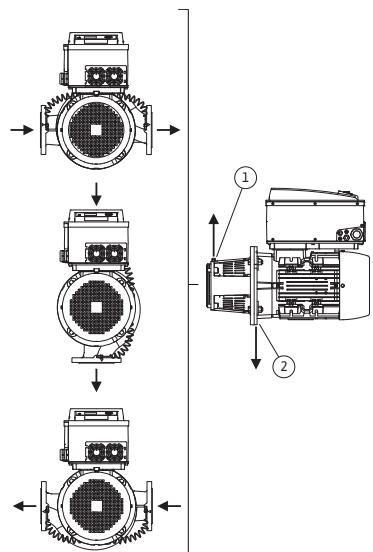
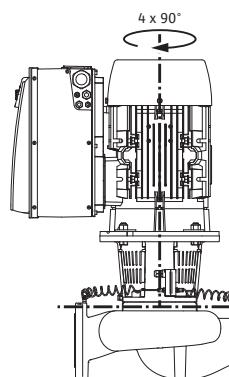

Fig. 18: Permitted installation positions with horizontal motor shaft
Fig. 19: Permitted installation positions with vertical motor shaft
The permitted installation positions with horizontal motor shaft and electronic module facing up (0°) are shown in Fig. 18. The permissible installation positions with electronic module mounted on the side ($+/-90^\circ$) are not shown. Any installation position is allowed except for “electronic module facing down” (-180°). The venting of the pump is only ensured when the air vent valve is pointing upwards (Fig. 18, Item 1). Only in this position (0°) can condensate be directed away via existing drilled holes, pump lantern and motor (Fig. 18, Item 2). Remove the plug from the motor flange.
The permitted installation positions with vertical motor shaft are shown in Fig. 19. All installation positions except for “motor facing down” are allowed.
- The air vent valve at the lantern (Fig. 6, Item 1.31) must always face upwards if the motor shaft is horizontal (Fig. 6a; and Fig. 6b:). If the motor shaft is vertical, any orientation is permitted. See also Fig. 18: "Permitted installation positions with horizontal motor shaft" on page 89 and Fig. 19: "Permitted installation positions with vertical motor shaft" on page 89.
- With a horizontal motor shaft, the condensate hole must be positioned towards the bottom (Fig. 18, Item 2). If necessary, the motor must be turned accordingly.